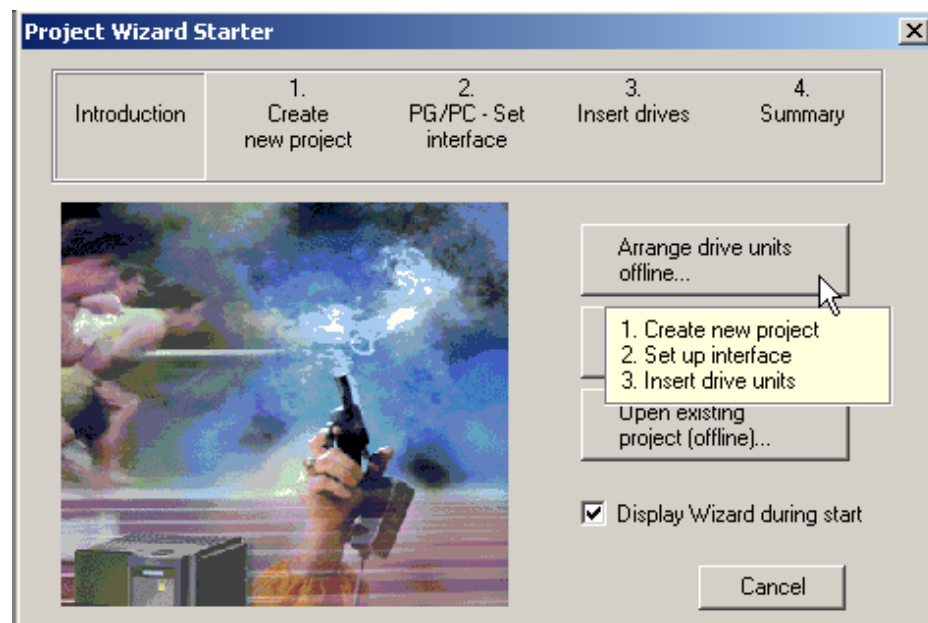

Fig. 3-2 Project Wizard STARTER
3. Choose **Arrange drive units offline** (see Fig. 3-2).